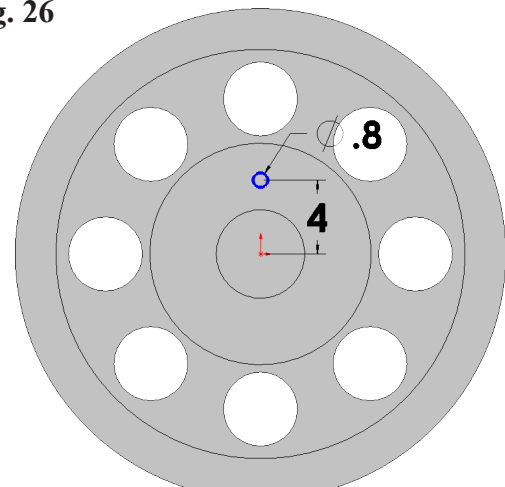

Fig. 27
Step 4. Sketch a circle above Origin , **Fig. 27**.
Step 5. Click **Smart Dimension**  (S) on the Sketch toolbar.
Step 6. Add dimensions, **Fig. 27**.